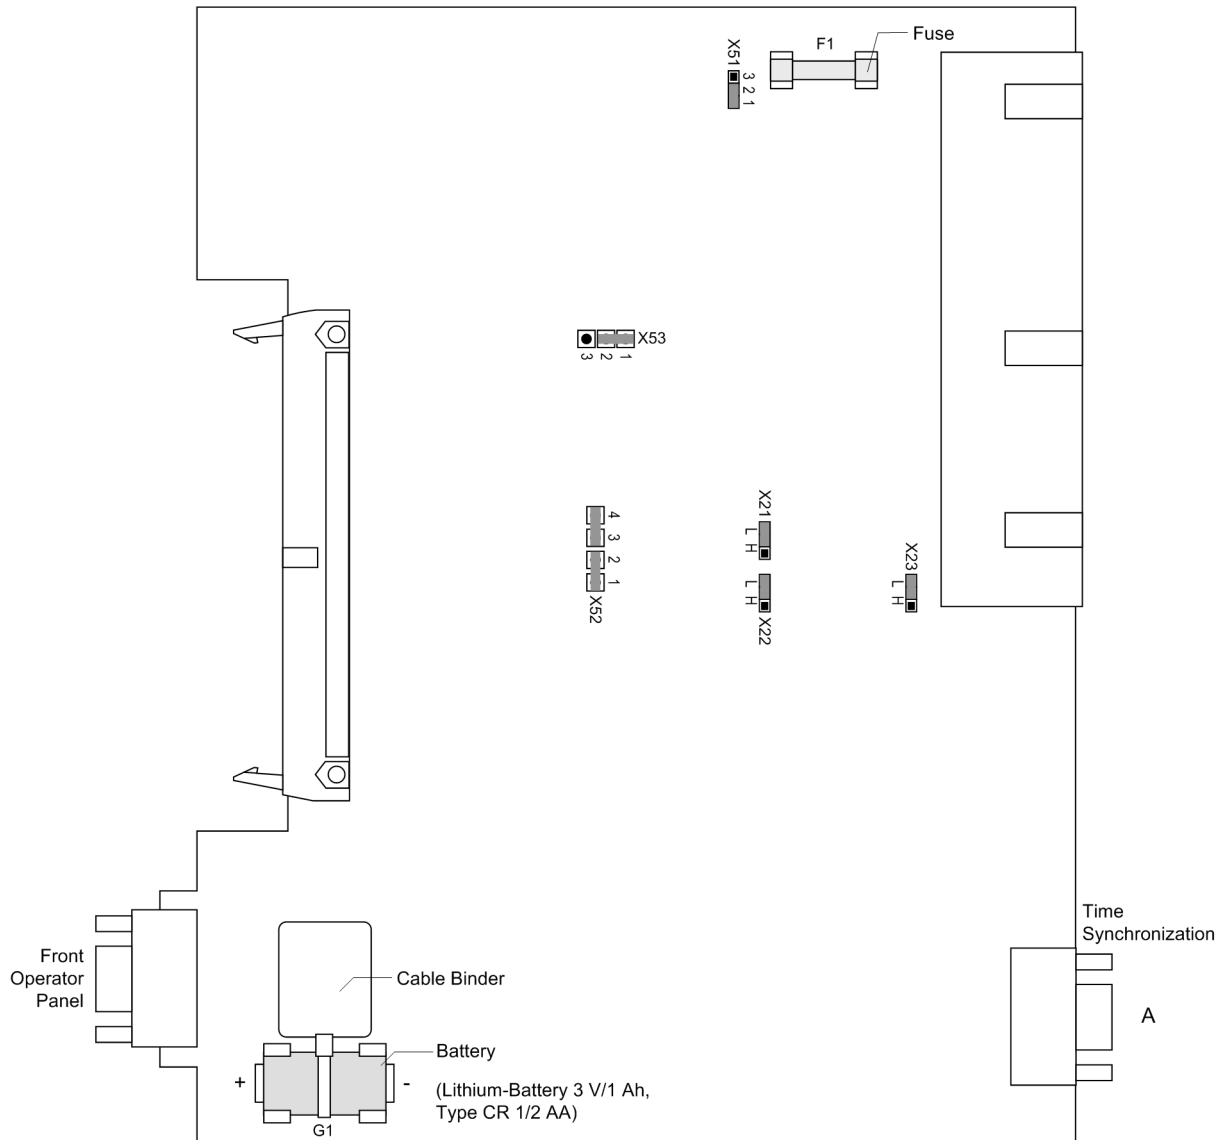

Figure 3-9 Processor printed circuit board A-CPU for devices up to release .../DD with jumpers settings required for the board configuration
- Check the jumpers according to figures 3-9 to 3-20 and the following information. Change or remove the jumpers if necessary.